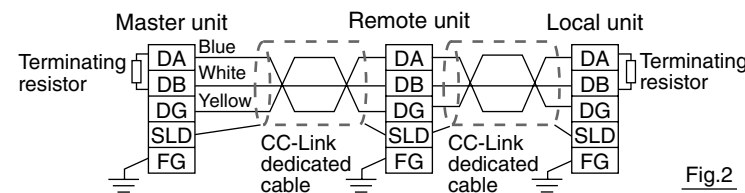

Fig.2
- (2) Make sure to connect a "Terminating resistor" between "DA" and "DB" of the unit at both ends of CC-Link system. (Refer to Fig.2) For CC-Link detected cable, use a cable with the same specifications. If a cable of another specification is used, the normal data transmission is not guaranteed.